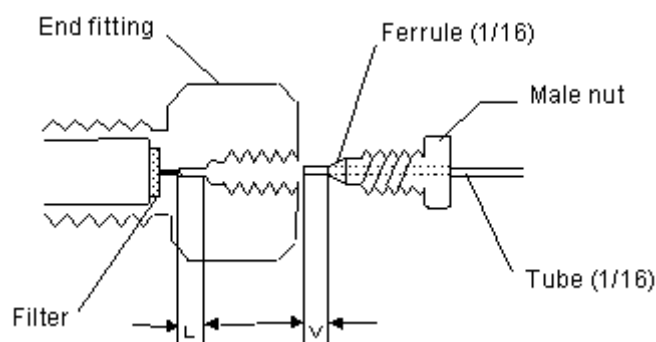

Fig. 2
1. The column joint is of a male-nut type for 1/16 inch OD tubing. Use tubing made of PEEK. Ensure that the tubing joints of the system fit correctly. Pay particular attention to ensuring that the ferrule tip is deeply inserted into the joint (See Fig. 2) .
For tubing, follow the instructions in Fig. 2. Inappropriate tubing, particularly when a tube used for a different type of column is used as is, the tip length beyond the ferrule ( $V$  in Fig. 2) may not match the length of the end fitting bore ( $L$  in Fig. 2), which leads to troubles.